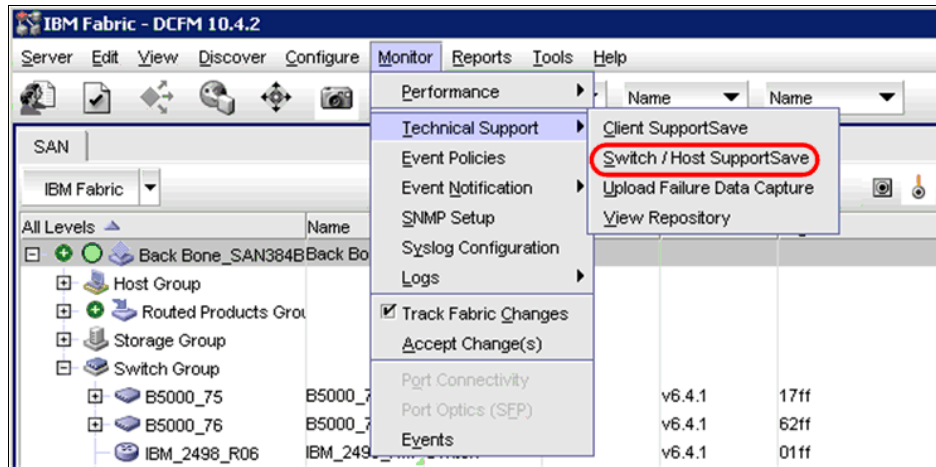

Figure 17-22 Technical Support
1. Select **Monitor** → **Technical Support** → **Switch / Host Supportsave** (Figure 17-22).